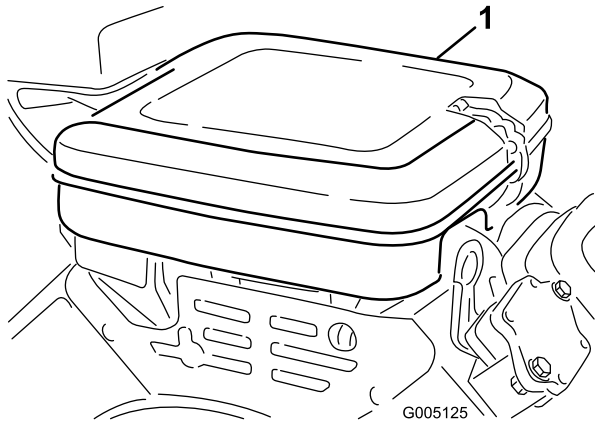

Figure 47
1. Release the locking clips and remove the air cleaner cover (Figure 47). Clean the cover thoroughly.